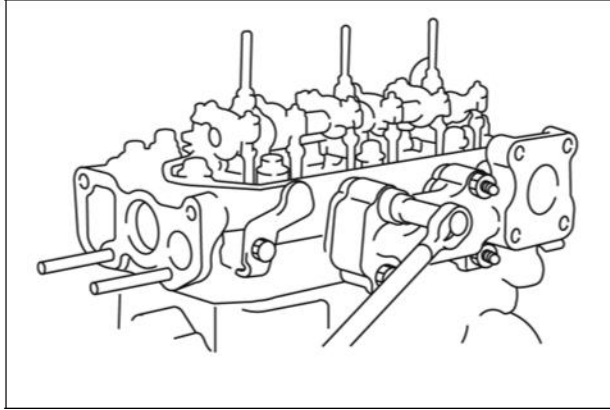

Figure 35
11. Install exhaust manifold with new gasket (Figure 35). Torque screws to values listed in Section 14 - Engine Specifications.